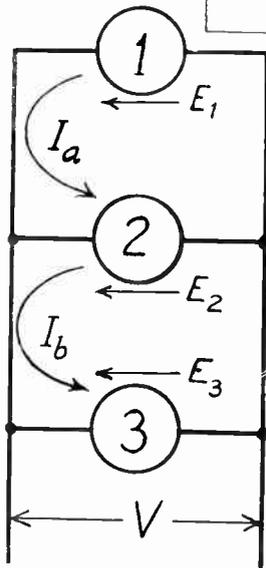

Fig. 9B (left).—CIRCUIT DIAGRAM FOR THREE E.M.F. SOURCES IN PARALLEL.
(2) If in the preceding example the dynamo and battery supply a load of 2 ohms, what will be the common terminal voltage if the no-load e.m.f. of the dynamo is raised to 112 volts? Neglect the effects of armature reaction in the dynamo. Also, what will be the currents in the dynamo and the battery?
The circulating current I_x , Fig. 9B, is calculated from formula (12). Thus: